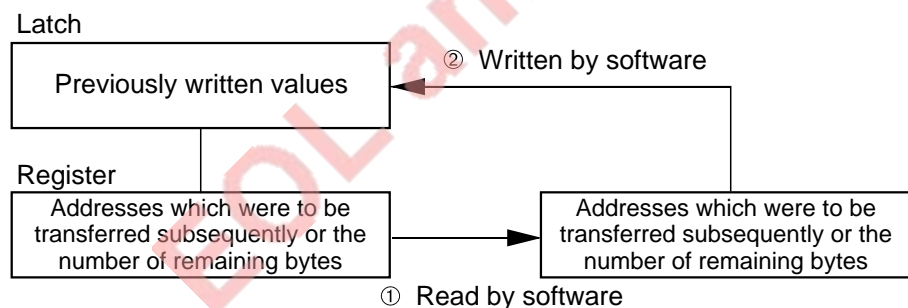

Fig.13.3.4 States of SARi, DARi, TCRi after forced termination
At normal and forced termination, the latches of SARi, DARi, and TCRI maintain their values written before the transfer start. (Refer to “**Figure 13.3.4-a.**”) Therefore, DMA transfer must be restarted according to the following procedures:
Set the DMAi enable bit to “1.” It is not necessary to re-set the values of SARi, DARi, and TCRI by software. (Refer to “**Figure 13.3.4-b.**”)
When writing these read values to the addresses of SARi, DARi, and TCRI respectively, the same values are also written to their latches. When setting the DMAi enable bit to “1” under this condition, transfer of data subsequent to one which has been transferred just before forced termination is restarted. (Refer to “**Figure 13.3.4-c.**”)
- ① Switch over the current mode to the single transfer mode.
- ② Read the values at addresses of SARi, DARi and TCRI. Then, rewrite these values into these addresses.
- ③ Set the DMAi enable bit to “1.” (Refer to “**Figure 13.3.4-c.**”)
- ④ In order to transfer the next block, switch over the current mode to the previous mode after the above-mentioned transfer is normally terminated. Then, re-set the values of SARi, DARi, and TCRI.